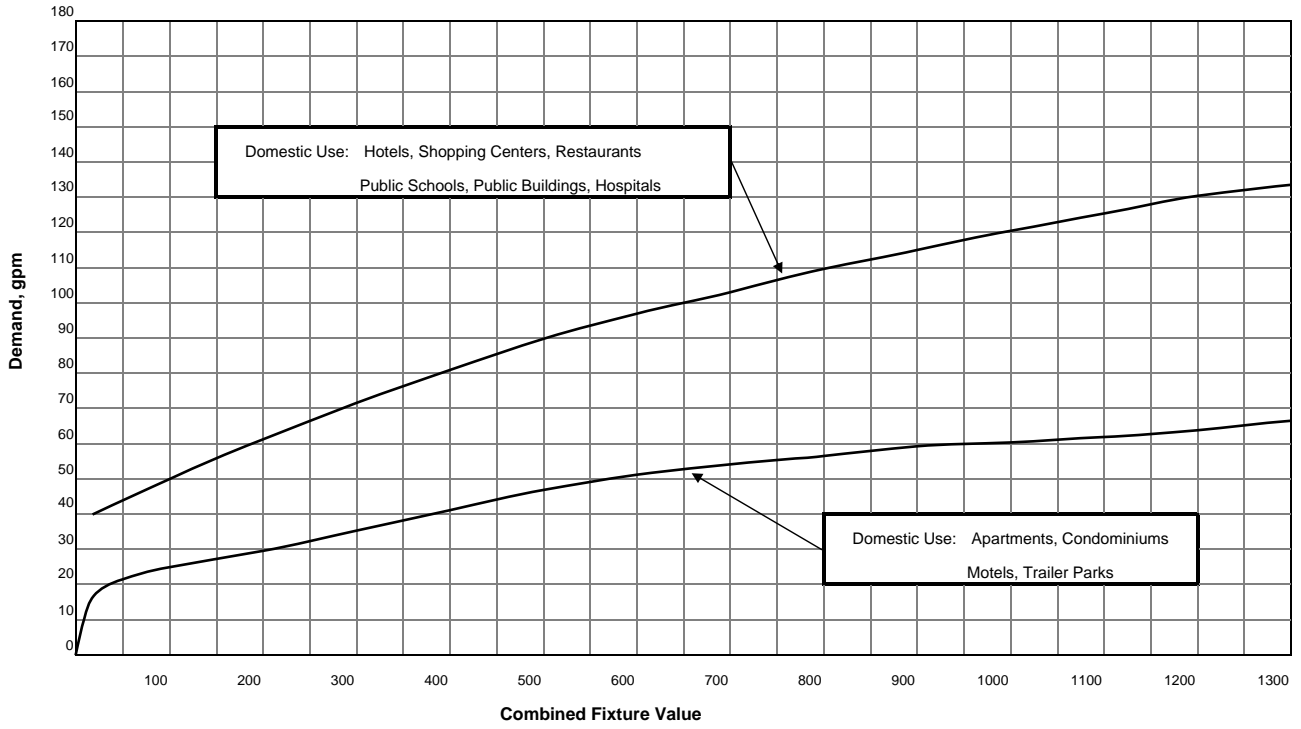

Figure 4-2 Water flow demand per fixture value - low range
- Based on Combined Fixture Value Total and Type of Occupancy use either Figure 4-2 or 4-3 to select Water Demand in Gallons Per Minute (gpm).